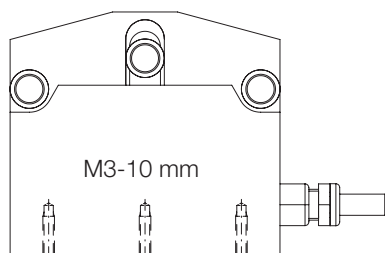
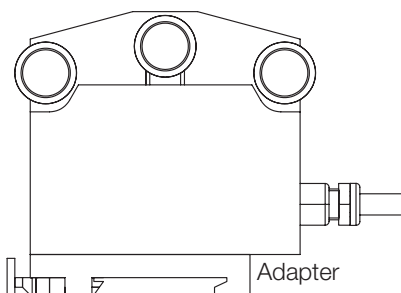
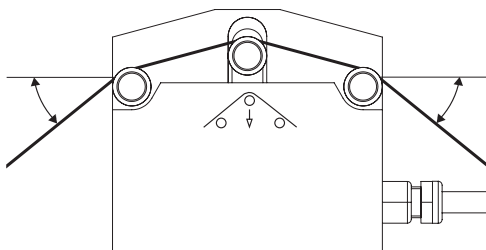

fig. 2.1a
fig. 2.1b
fig. 2.1c
1. Install the sensor at the desired measuring location. The sensor can be mounted with the three boreholes (M3-10 mm deep), which are located on the bottom side of the unit (fig. 2.1a) or can be snapped in at a mounting rail with the optional available adapter (fig.2.1b), that is mounted ex works at the sensor. The material incoming and outgoing angle of models TSCA-ZD and TSCA-ZF must be 35° (fig. 2.1c).